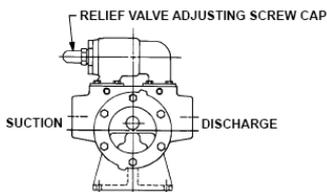

Figure 3
3. Relief valve adjusting screw cap must always point towards suction side of pump. If pump rotation is reversed, remove pressure relief valve and turn end for end. Refer to figure 3.